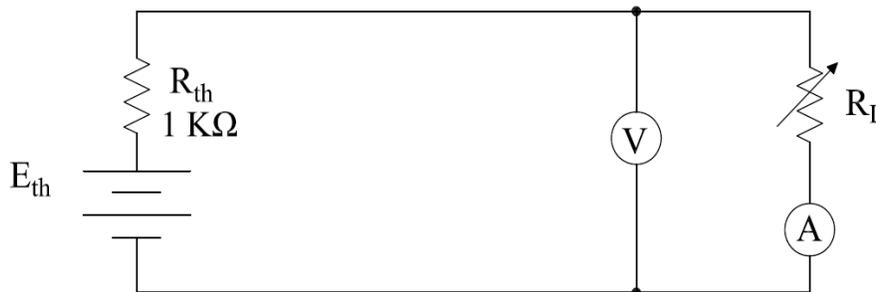

Fig.4
1. Calculate I_L and V_L theoretically from Fig.3 and Fig.4 then record your results in Table (2).